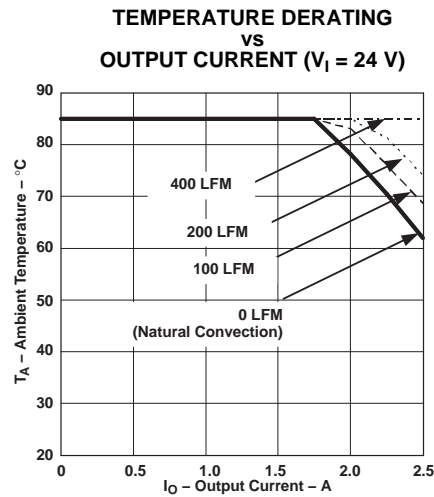

Figure 19.
- (8) The temperature derating curves represent operating conditions at which internal components are at or below manufacturer's maximum rated operating temperature. Derating limits apply to modules soldered directly to a 100–mm × 100–mm, double-sided PCB with 2 oz. copper. Applies to Figure 19.